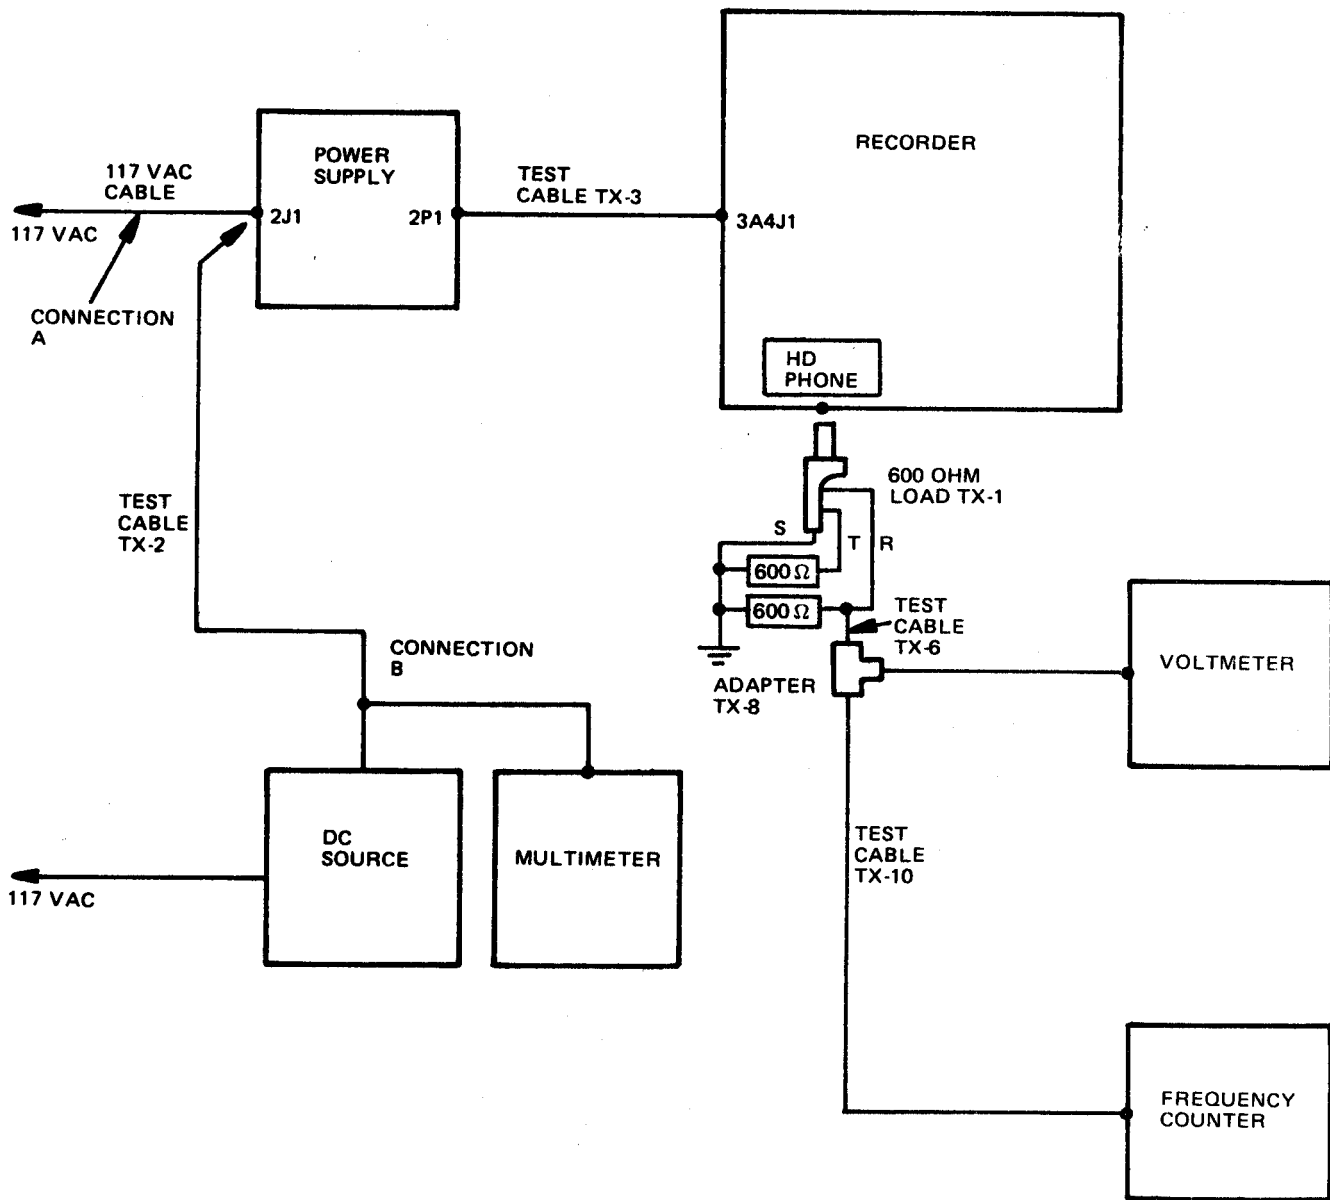

Figure 3-7. Tape Speed, Equipment Setup
- (1) Remove recorder housing, refer to paragraph 3-25.
- (2) Connect equipment as shown in figure 3-7, connection A.
- (3) Insert 3 kHz test tape.
- (4) Perform procedure of table 3-3.
EQUIPMENT SETUP: FIGURE 3-7, CONNECTION B